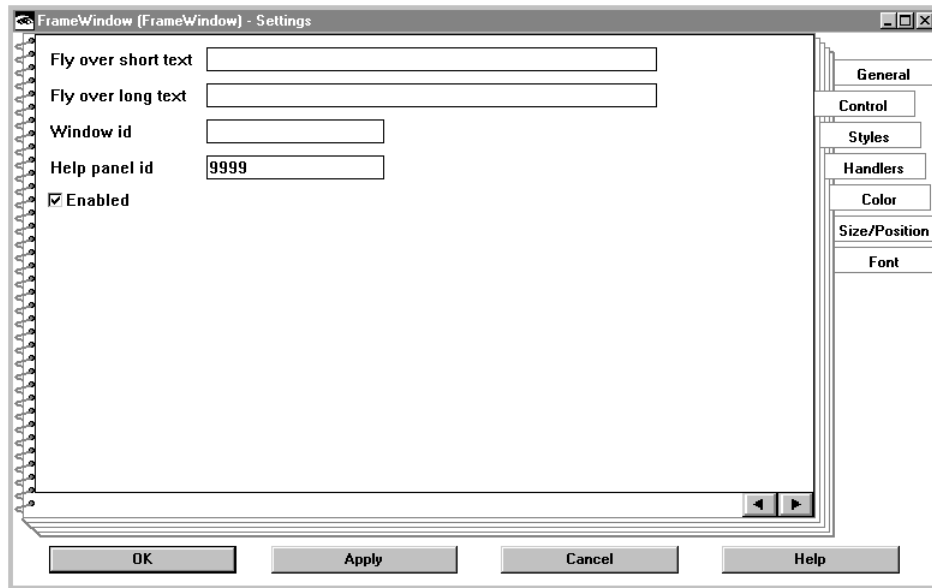

Figure 115. The Control Page of the Frame Window's Settings Notebook
2. Select the **Control** page. It looks like Figure 115 on page 254.